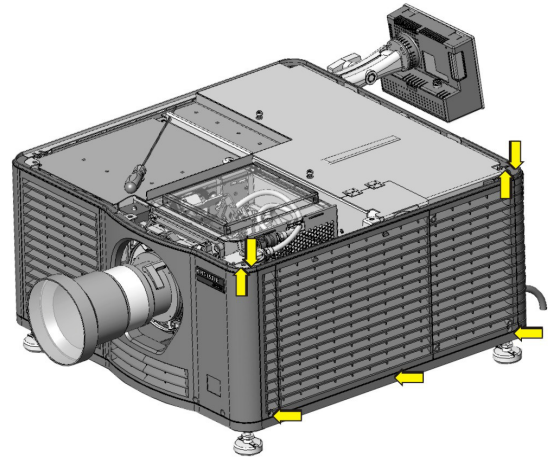

Figure 5-11 Remove Exhaust Panel
3. Remove the four screws securing the skin to the corner brackets (**Figure 5-11**).